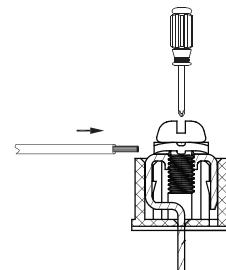

Fig. 19 —Connecting Communication Wire to Outdoor Unit Communication Terminal
3. Use a suitable screwdriver to fix the communication wire on the outdoor unit communication terminal as shown in Fig. 19.